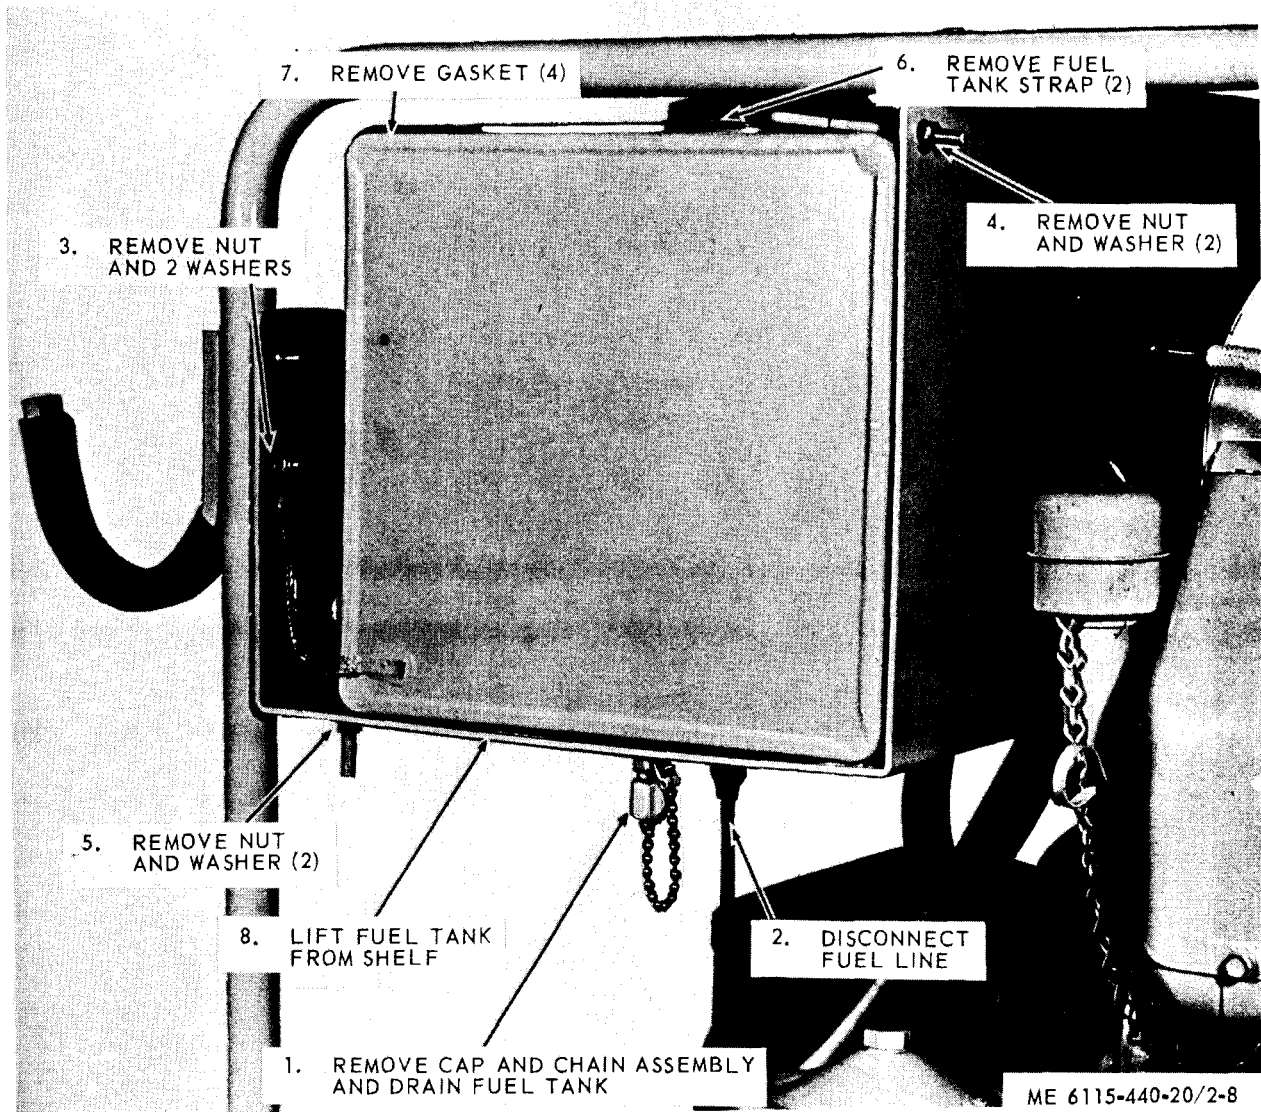

Figure 2-8. Fuel tank, removal and installation.
a. *Removal.* Refer to figure 2-8 and remove the fuel tank.
b. *Installation.* Refer to figure 2-8 and install the fuel tank.